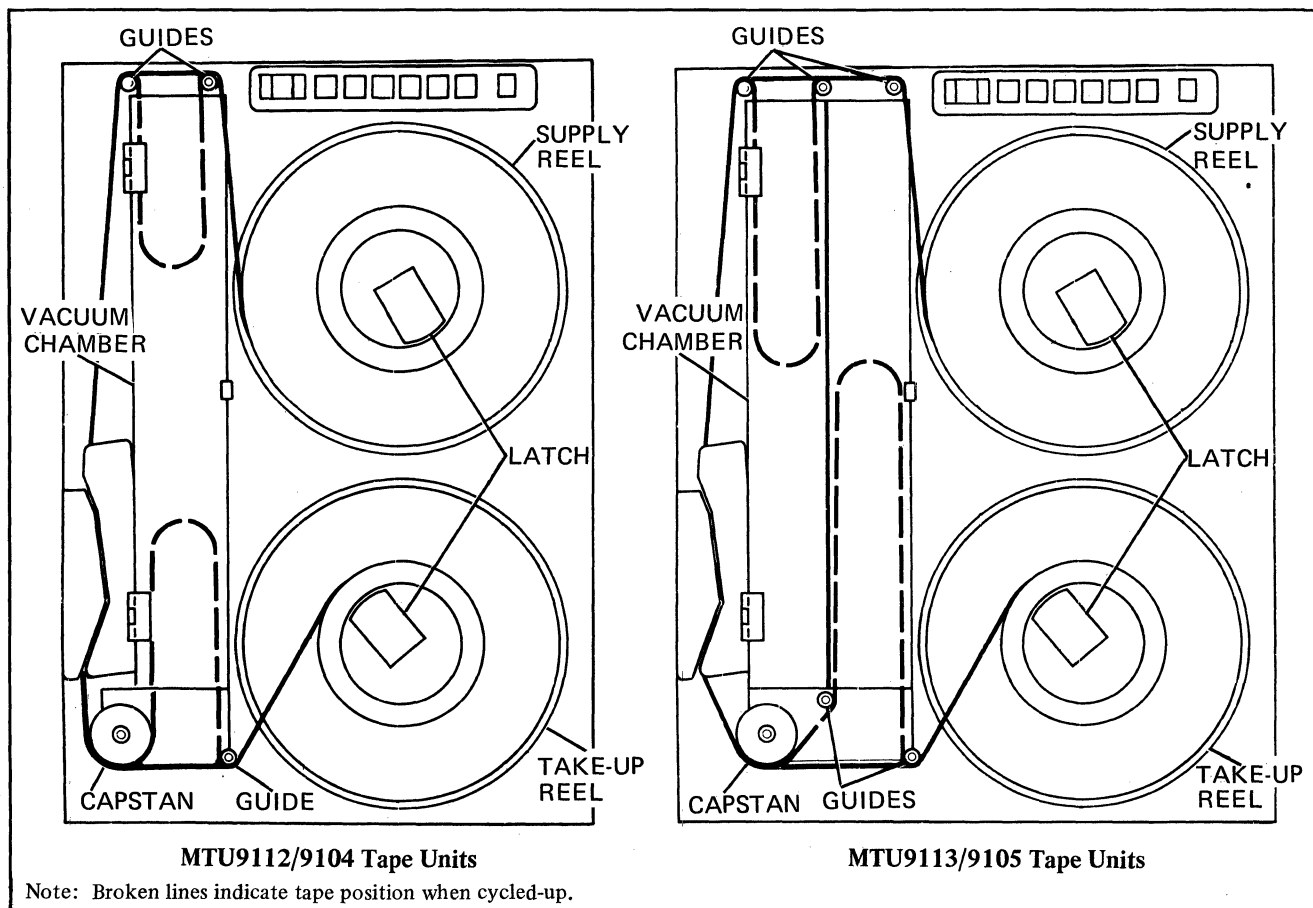

Figure 14-6. Tape Threading Diagram
2. Thread and feed the tape over the upper roller guides, through the tape head area, and under the capstan and lower roller guide directly over to the take-in reel; see the tape threading diagram located on the inside cover of the handler door and Figure 14-6.